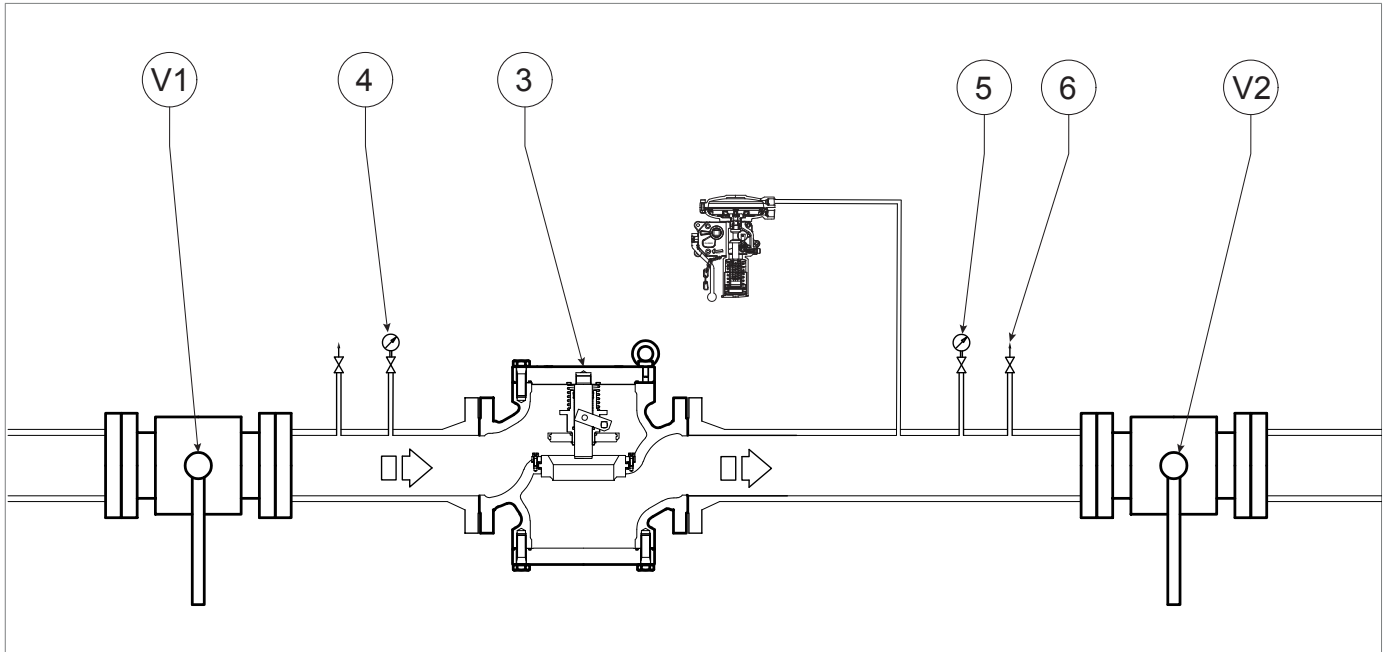

Fig. 8.9. Checking the tightness of the slam-shut valve SCN
1	<p>! NOTICE!</p> <p>Check the pressure referring to the downstream pressure gauge (Fig. 8.9, ref. 5).</p> <p>If the slam-shut valve:</p> <ul style="list-style-type: none"> trips before the expected pressure value: screw in (clockwise) the adjustment ring nut (13) so as to further compress the spring (11); does not trip at the expected pressure value: unscrew (anti-clockwise) the adjustment ring nut (13) so as to relieve the spring (11).
2	Decrease the pressure in the pressure switch head using the drain cock (3) of the external source or the drain cock (Fig. 8.9, ref. 6)
1	Partially open the bleed cock (Fig. 8.9, ref. 6) and keep it open for the next steps.
2	<p>Decrease the downstream pressure to the minimum required slam-shut valve pressure.</p> <div style="border: 1px solid blue; padding: 5px;"> <p>! NOTICE!</p> <p>Check the pressure referring to the downstream pressure gauge (Fig. 8.9, ref. 5).</p> <p>If the slam-shut valve:</p> <ul style="list-style-type: none"> • trips before the expected pressure value: unscrew (anti-clockwise) the adjustment ring nut (15) so as to relieve the spring (17); • does not trip before the expected pressure value, screw in (clockwise) the adjustment ring nut (15) so as to further compress the spring (17). </div>
3	Close the bleed cock (Fig. 8.9, ref. 6).
1	<p>NOTICE!</p> <p>Check the pressure referring to the pressure gauge (Fig. 8.9, ref. 5) downstream of the main regulator.</p> <p>If the slam-shut valve:</p> <ul style="list-style-type: none"> • trips before the expected pressure value: screw in (clockwise) the adjustment ring nut (13) so as to further compress the spring (11); • does not trip at the expected pressure value: unscrew (anti-clockwise) the adjustment ring nut (13) so as to relieve the spring (11).
2	By opening the vent (Fig. 8.9, ref. 6), decrease the pressure in the downstream section to the calibration value of the main regulator.
3	Close the air vent valve (Fig. 8.9, ref. 6).